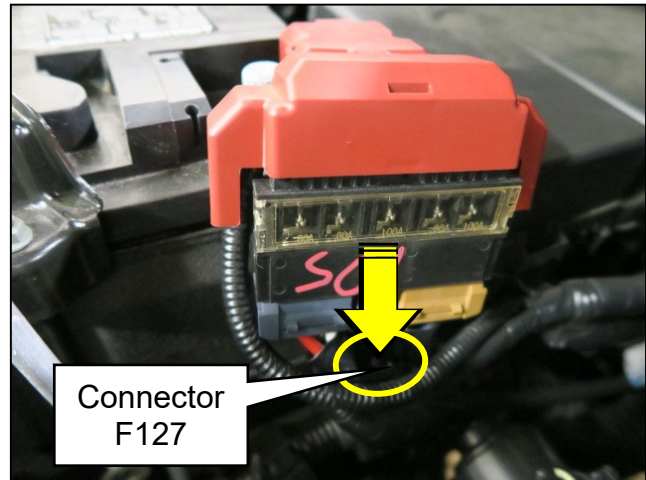

Figure 26
24. Disconnect the transmission power supply connector, F127, from the positive battery fusible link as shown in Figure 26.